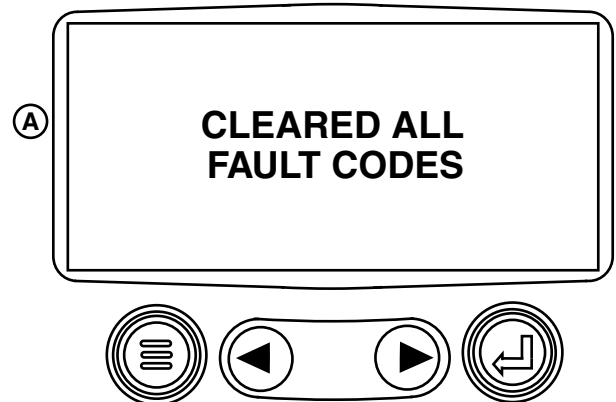

Figure 2. Clear All Fault Codes Screen
5. Screen shows stored fault codes have been cleared. See figure 2.